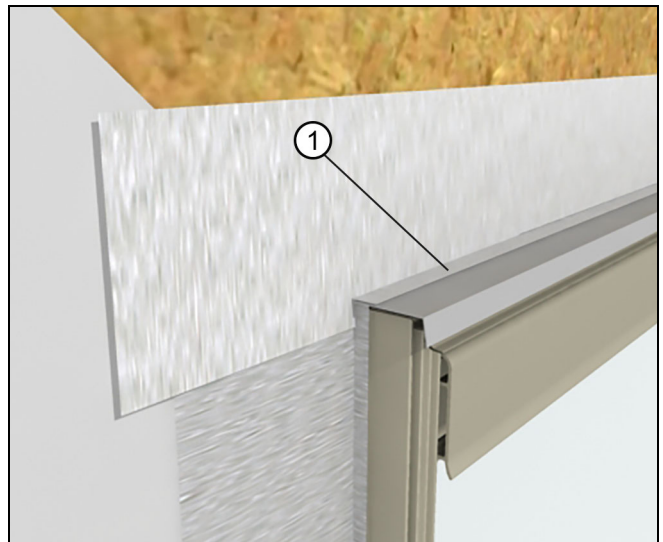

Figure 39
4. Install a layer of flashing over the vertical leg of the rigid head flash and lapped onto the horizontal leg. The flashing should extend past the jamb flashing installed earlier. See Figure 39.